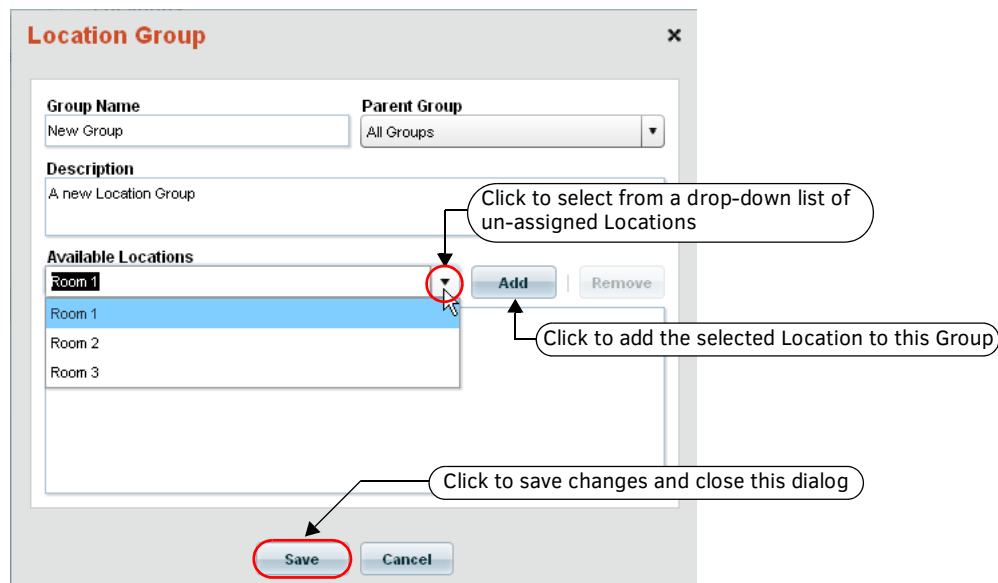

FIG. 179 Location Group dialog
- c. Add other available Locations as desired, then click **Save** to save all changes and close the *Location Group* dialog (FIG. 179).